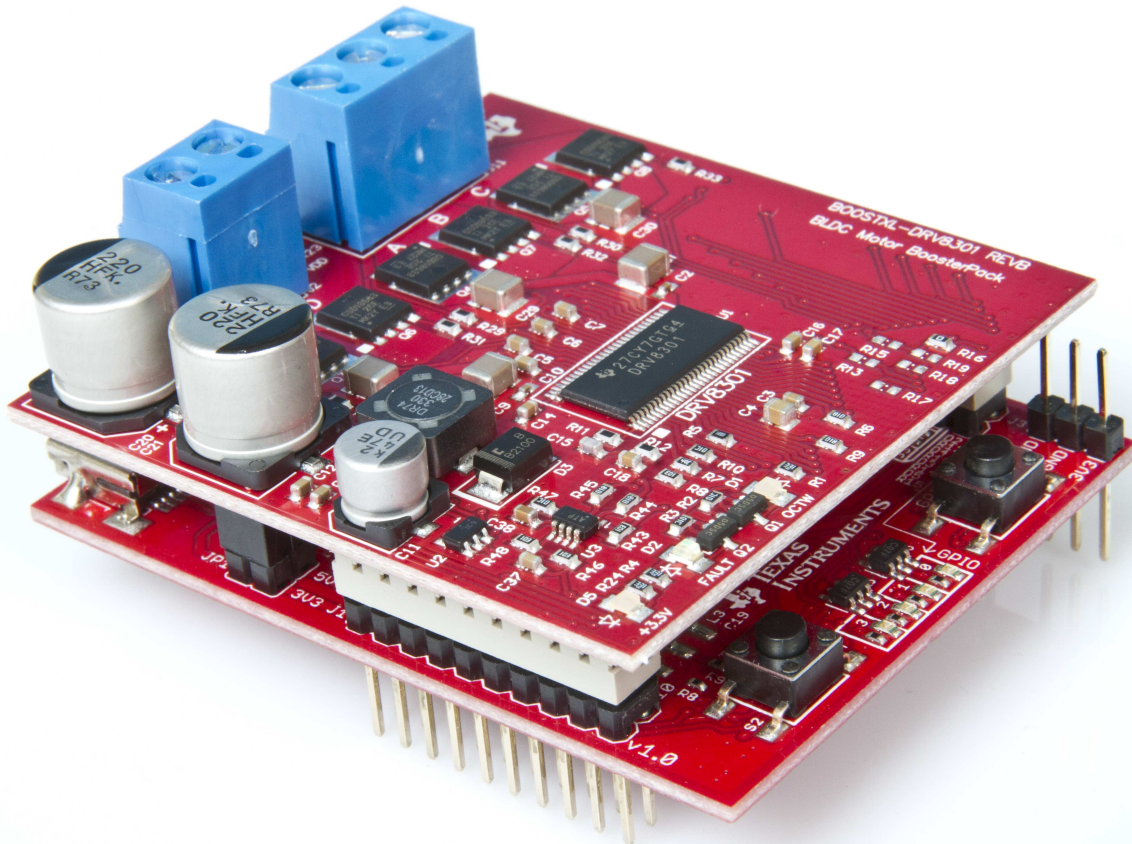

Figure 3. BOOSTXL-DRV8301 on Top of LAUNCHXL-F28027F
1. Plug the Motor Drive Booster Pack onto the LaunchPad as shown in Figure 3. The terminal block headers should be oriented towards the USB connector.